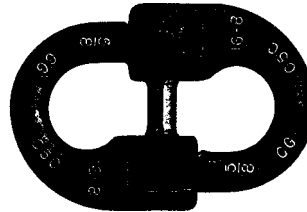

Figure 2.2: Connecting Link
Connecting links (Figure 2.2) are attached on one end to the safety chain and linked on the other end through weldments on the neutral axis of the trailer frame (one on each side of the frame). Two recommended designs of the weldments are (1) a ½" thick plate of high tensile weldable steel (50W) with 1" diameter holes drilled at least ½" from the outside edge and (2) a bent rod of 1018 cold rolled steel with a minimum diameter of ¾". These designs are shown in the attached drawing D-001R-5-300-00-183.